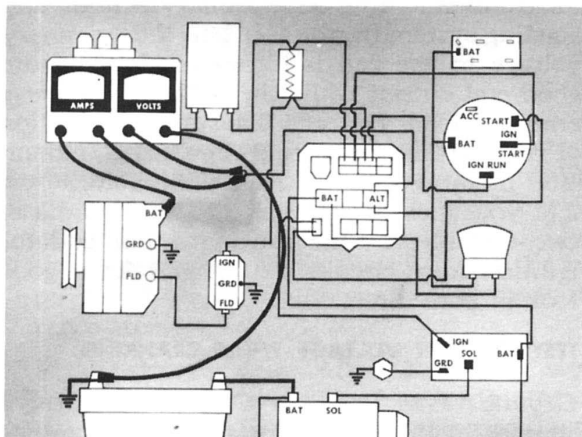

Fig. 5—Voltage regulator tests.
4. Test connections are shown in Fig. 5.